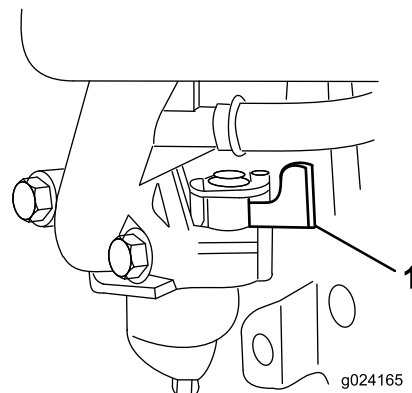

Figure 12
2. Open the fuel valve by moving the fuel-valve lever to the **right** (Figure 12).
Note: Close the fuel valve by moving the fuel-valve lever (Figure 12) to the **left** if you will not be starting the engine soon afterward.